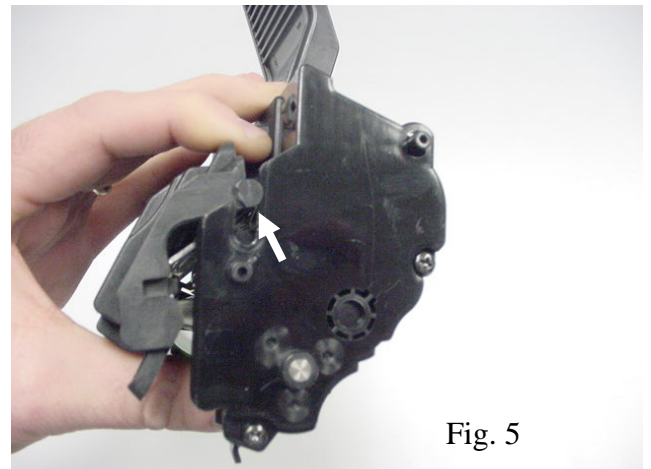

Fig. 5
5. The waste bin is held in place by a post that sits in a slot on the end cap. Push the waste bin up towards the handle to remove the post from the slot on this end cap. Set the waste bin to the side (Fig. 5).